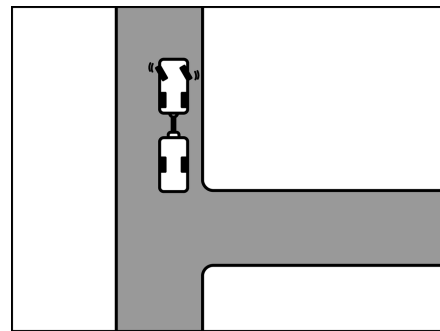

Fig. 11 Steer to the left
- With a stationary towing vehicle and trailer turn the steering wheel to the left (Fig. 11).